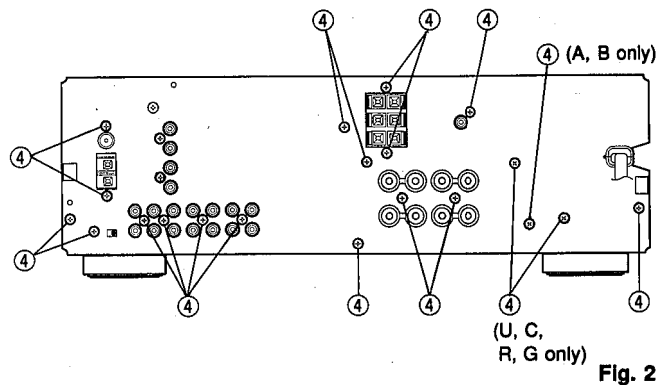

Fig. 2
3. Checking and Parts Replacement of P. C. B. MAIN (1).
- Remove 19 screws (④) fixing the Rear Panel in Fig. 2.